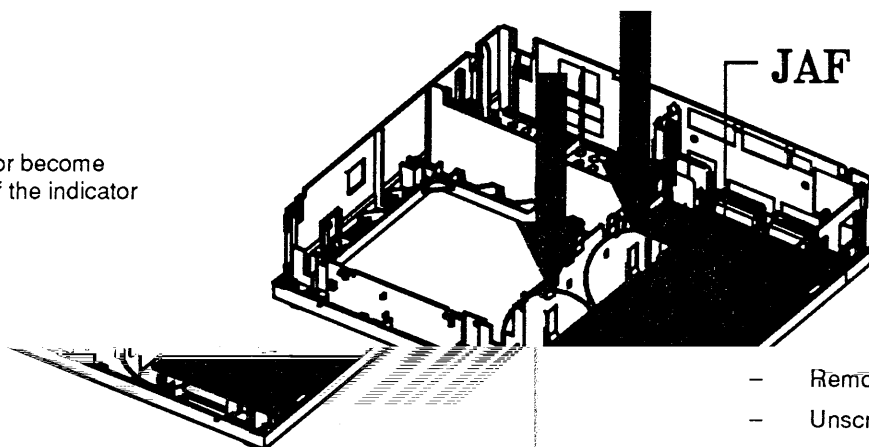

Fig. 9
- The JAF print board can be removed from the case by undoing the two clasps (see fig. 9).